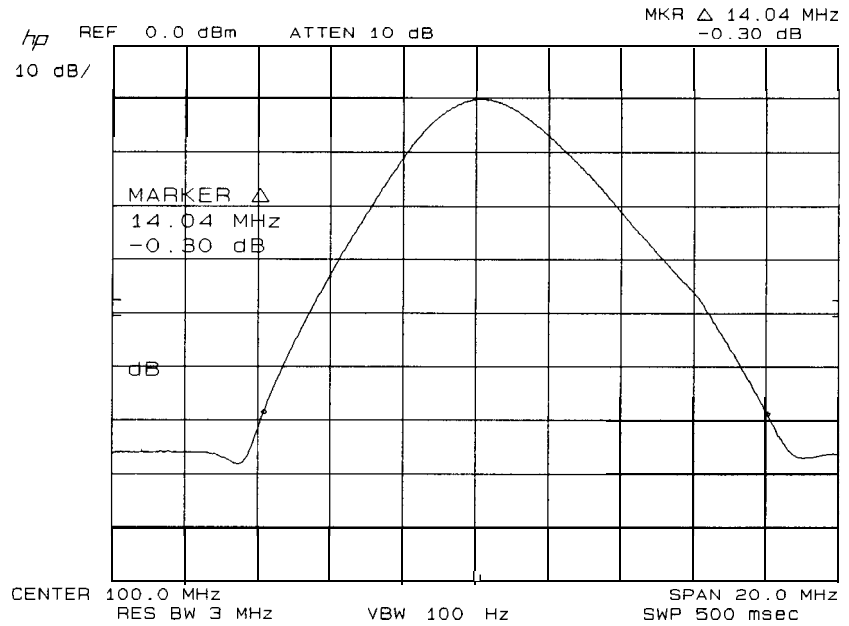

Figure 4-5. 60 dB Bandwidth Measurement
3. On the spectrum analyzer, press **MARKER NORMAL** and position the marker at the peak of the signal trace using the DATA knob. Press **MARKER In]** and position the movable marker 60 dB down from the stationary marker on the positive going edge of the signal trace (the **MARKER Δ** amplitude readout should be -60.00 dB fl.00 dB). It may be necessary to press **SWEEP CONT** and to adjust **CENTER FREQUENCY SO** that both 60 dB points are displayed (see Figure 4-5).
5. Read the 60 dB bandwidth for the 3 MHz resolution bandwidth setting from the MARKER [A] frequency readout (see Figure 4-5) and record the value in Table 4-5.